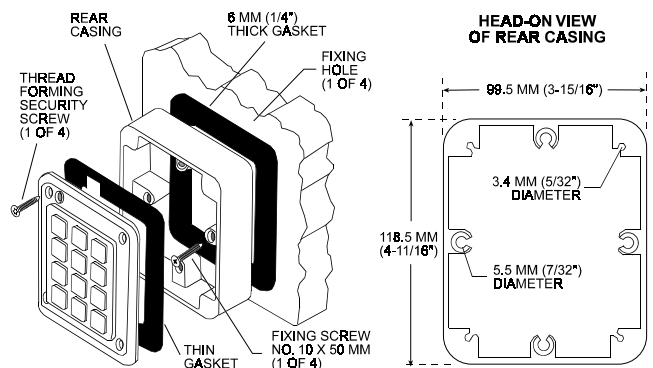
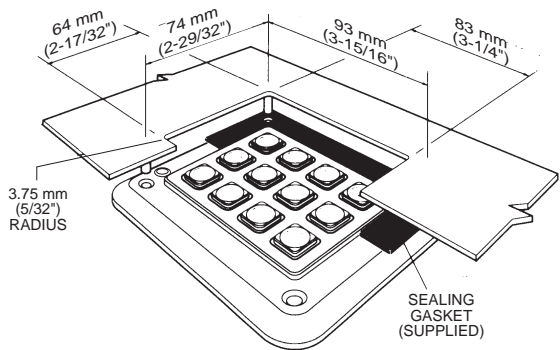

Figure 2. Surface Installation with Rear Casing
Figure 3. Mounting Behind a Panel
The KB-81 that meets IP-67 requirements is enclosed in a tough, all metal die cast housing, with an attractive, hard wearing satin chrome finish. The KB-82 is enclosed in a super impact grey polymer housing and meets IP-65 requirements. Both units are protected against the ingress of fluids and dust, and feature top quality switch contacts with gold on nickel plating. They can be mounted on the wall near the entry door together with the rear casing (see Figure 2), which must be used because the interface PCB protrudes behind the keypad. When an extremely low profile is required, the outdoor keypad may be installed behind metal panels, without the rear casing (see Figure 3).
3.2 Surface Mounting (Figure 2)
3.3. Mounting the Outdoor Unit behind a Panel (see Figure 3)
- A. Prepare the required panel cutout and the holes for the fixing screws as shown in Figure 3.